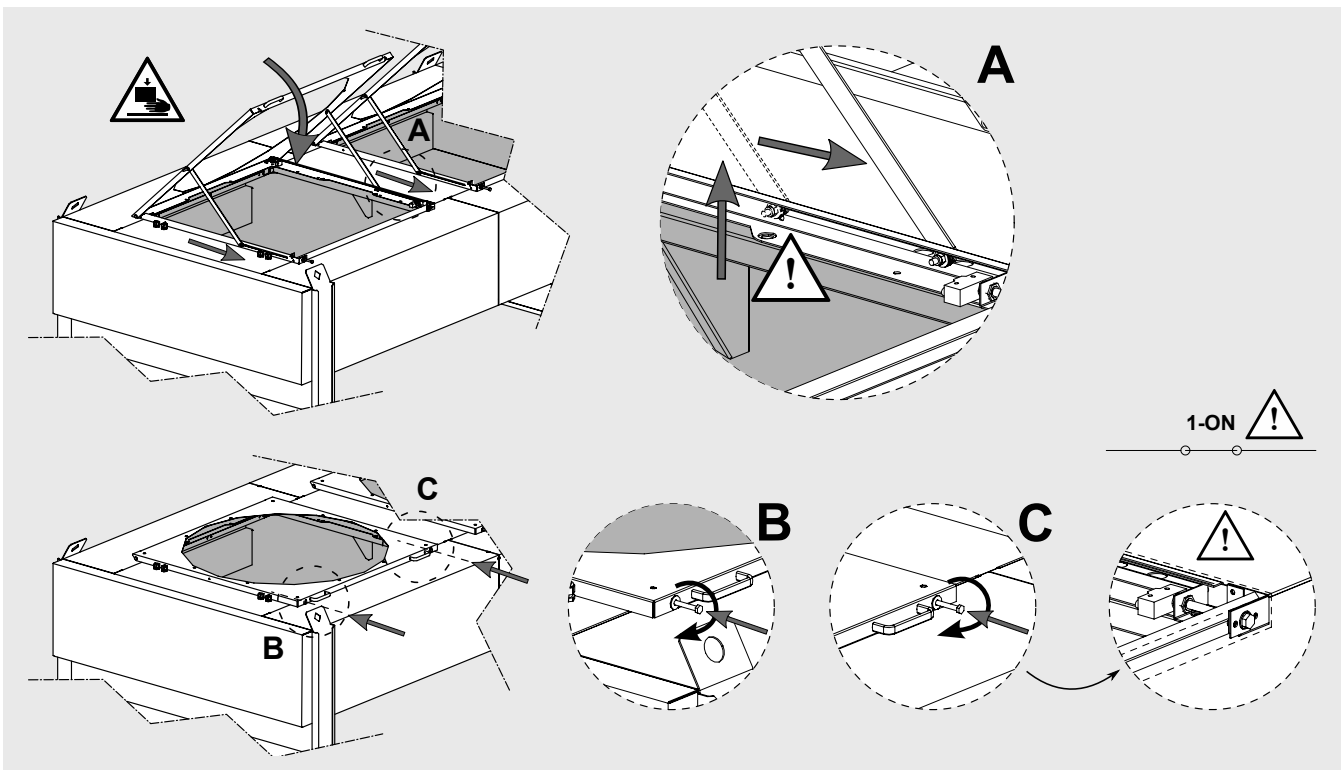

Figure 10
8.11.10 Take the upper frame by both the front handles and fold it down onto the lower one. See "Figure 10".
- 8.11.11 Fasten the front screws of the frame. Fastening the front screw on the right makes the micro-switch close the circuit. See "Figure 10".